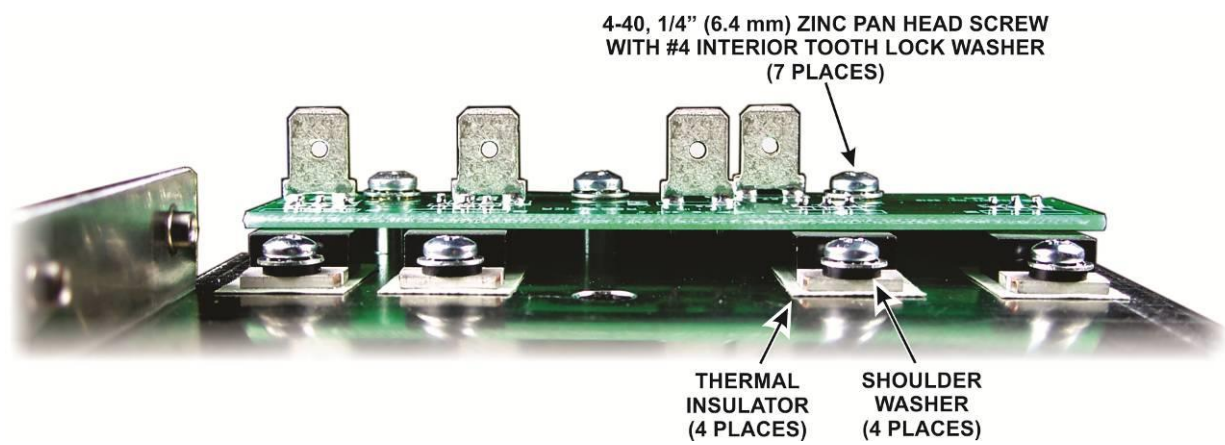

Figure 29. Rectifier Board on the Z-Bracket.
□ Mount the rectifier board on the Z-bracket as shown in Figure 29. The three holes in the pc board mount on the three standoffs on the Z-bracket.